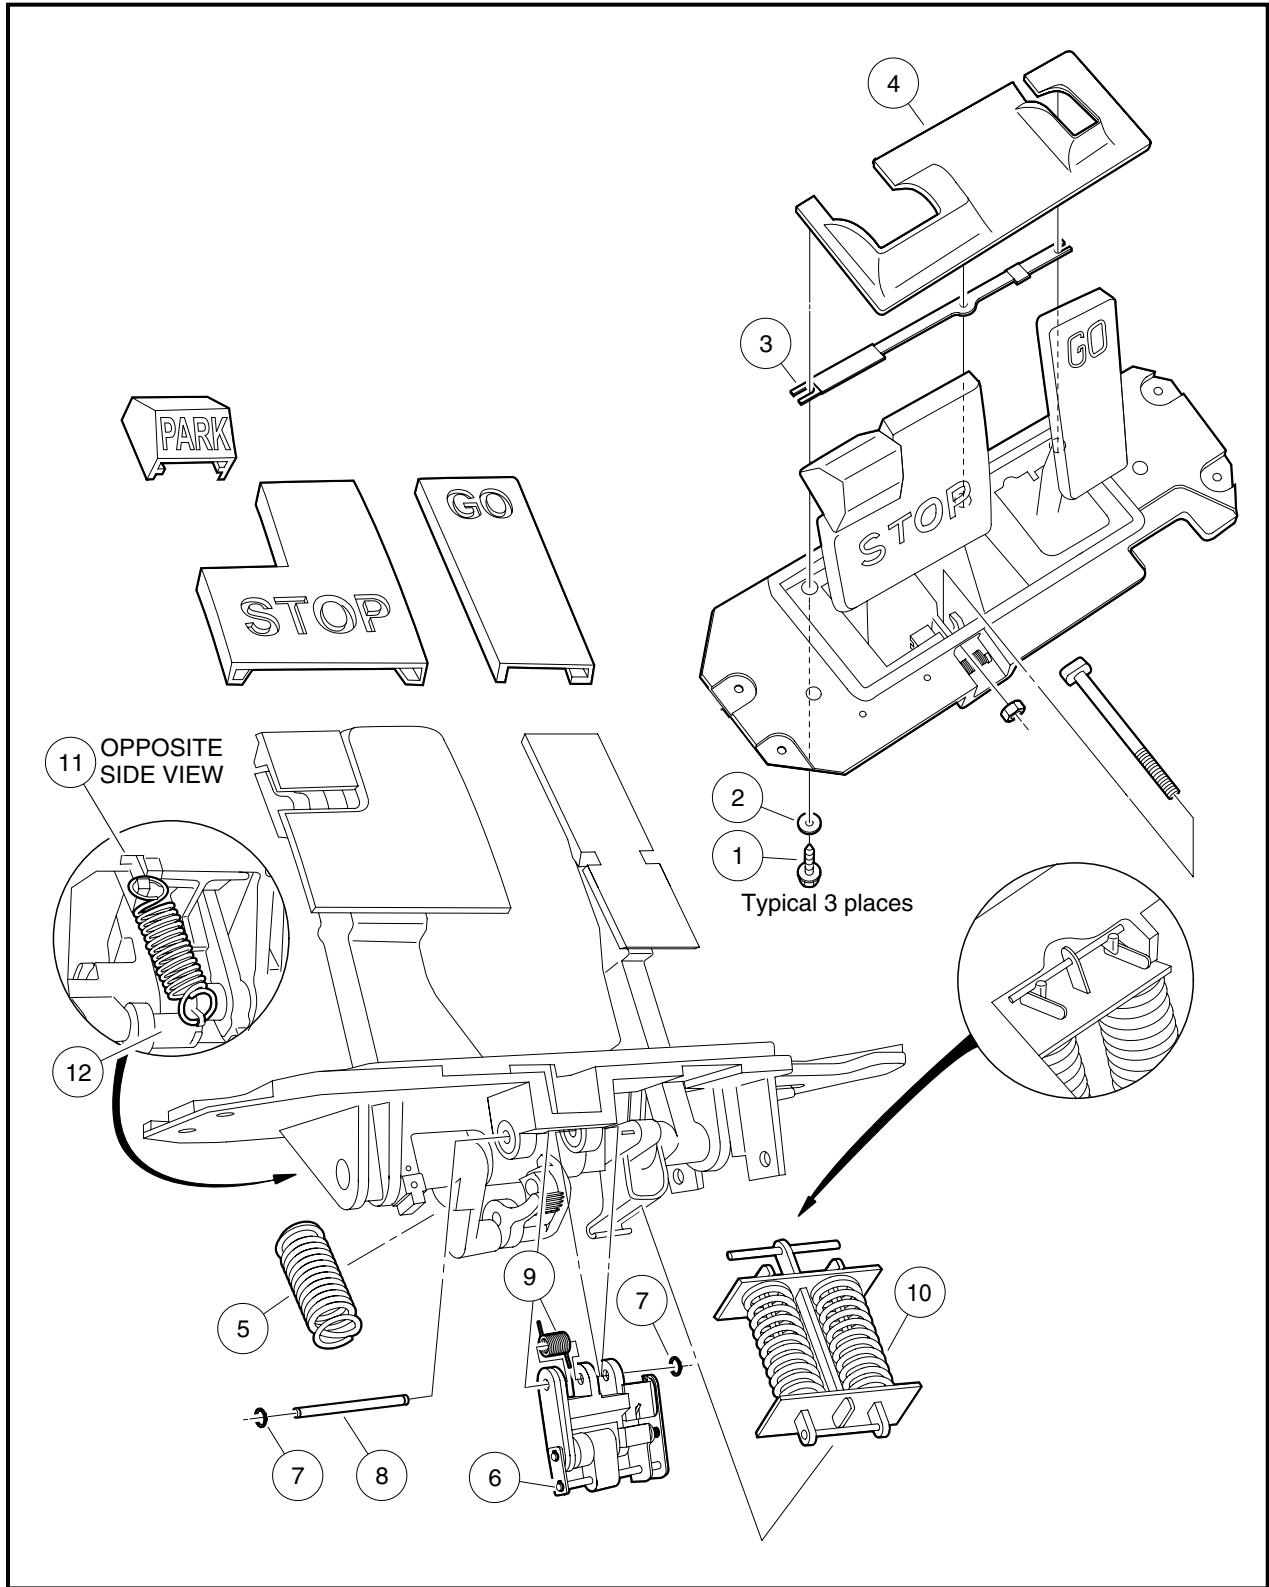

Figure 5-4 Brake Pedal
Debris shields on the top face of the pedal group prevent excessive debris from contacting the moving parts of the pedal group. Both shields (3 and 4) are held in place with screws (1) and washers (2) (**Figure 5-4, Page 5-5**). When shields are replaced, tighten screws (1) to 53 in-lb (6 N·m).
The brake return spring (5) provides the pressure needed to return the brake pedal to its upright position (**Figure 5-4, Page 5-5**). One end of the spring attaches to a hook on pedal (11) and the other end attaches to pedal base (12).
The pawl assembly (6) serves to lock the brakes when the PARK pedal is pressed. The pawl assembly also releases the brakes when either the STOP or GO pedal is pressed (**Figure 5-4, Page 5-5**). The pawl assembly is serviced as a unit. The replacement unit includes two snap rings (7), pin (8), spring (9), and pawl unit (6). When replacing the unit, ensure spring (9) is properly positioned to be held in place when the pin (8) is installed. Secure the pin with two snap rings (7).
The accelerator return spring assembly (10), consists of two springs and three T-shaped bars secured by two crosspins (**Figure 5-4, Page 5-5**). The assembly is replaced as a unit. The replacement unit includes a pin that keeps the spring compressed so it can be installed in the pedal group. Replace the assembly as follows: